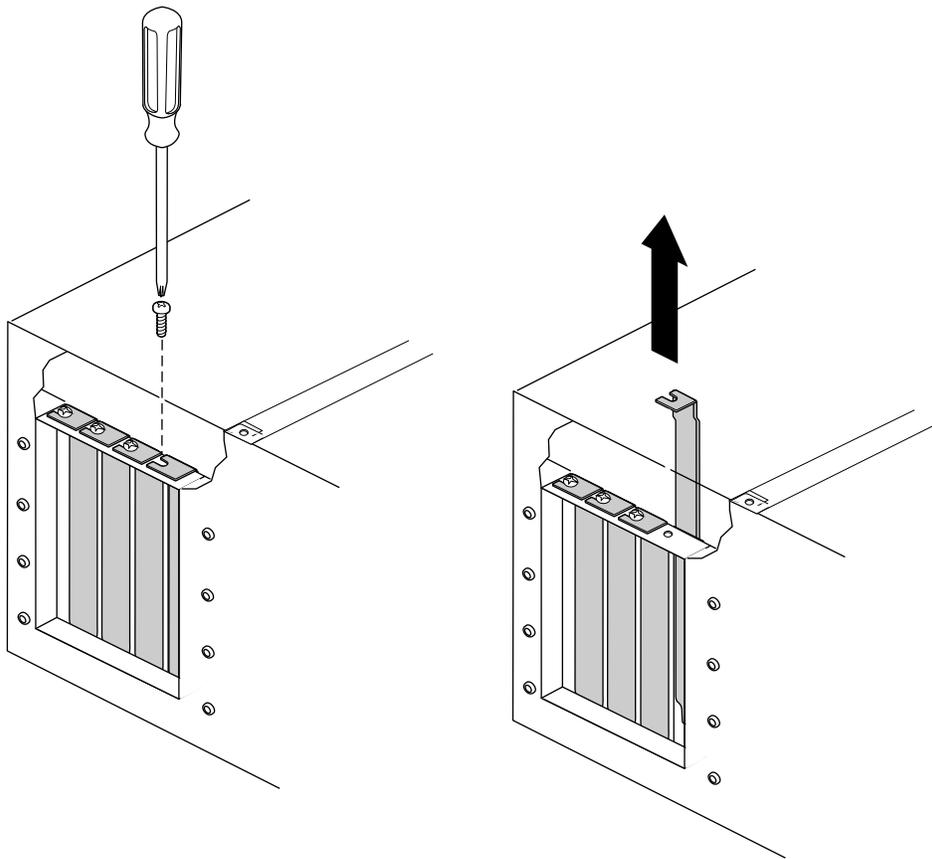

Figure 2-8 Removing the Blanking Plate From a GIGACHannel Expansion Cabinet
3. Remove the blanking plate from the slot you have chosen, as shown in Figure 2-8.